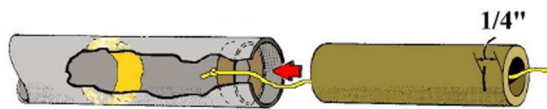

Figure 2
- **Step 3** Mark an expended 18mm motor casing at 1/4" from one end. Apply a generous bead of glue, about 1/4" wide, to the inside of the body tube about 2 1/4" from the bottom end of the tube. As shown in Figure 2, pull the Kevlar thread down through the center of the casing. Use the casing as a depth gage and push the TB-7 ring inside the body tube, up through the glue, until the mark on the casing is even with the edge of the tube. Remove the casing from the tube, but do not push the Kevlar thread back into the tube at this time. Allow this to completely dry.